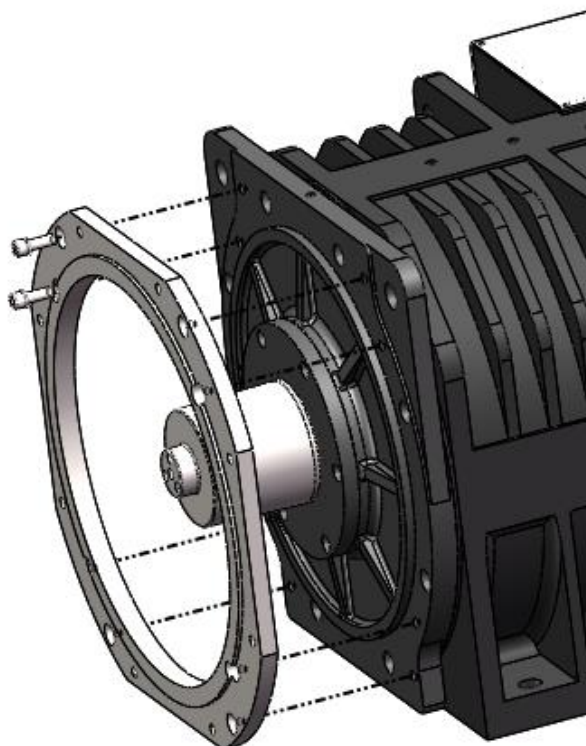

Figure 72: Junction plate removal (only for TMGL2A)
3. Loosen the Screw M12x35 (8 pieces) with hex wrench (10mm), and remove the Junction plate. See Figure 72. (**This step is only for TMGL2A**)